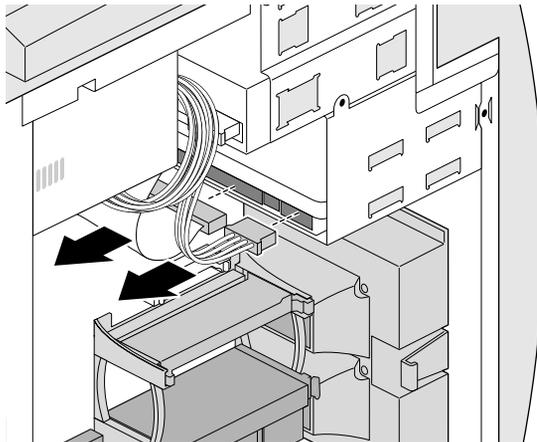

Figure 4-10 Disconnecting Cables from an Internal Hard Drive
4. If any hard drives are currently installed, disconnect the cables from the backs of the drives, as shown in Figure 4-10.